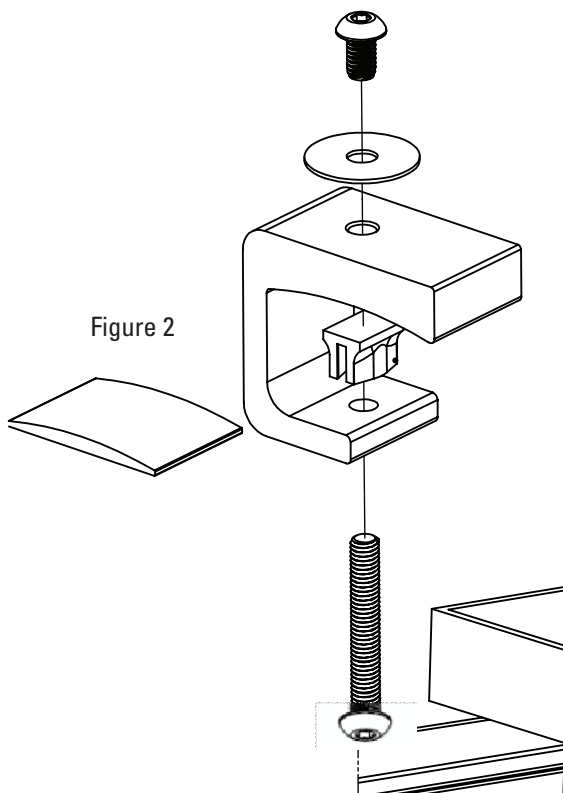

Figure 2
3. Take the C-Channel Clamp Foot and place it on top of the 3/8" BHCS (Figure 2)